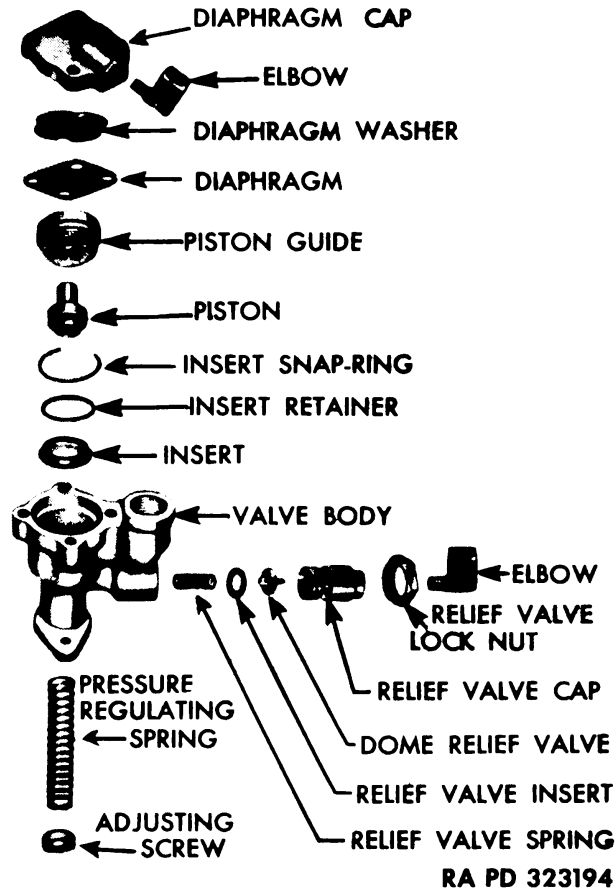
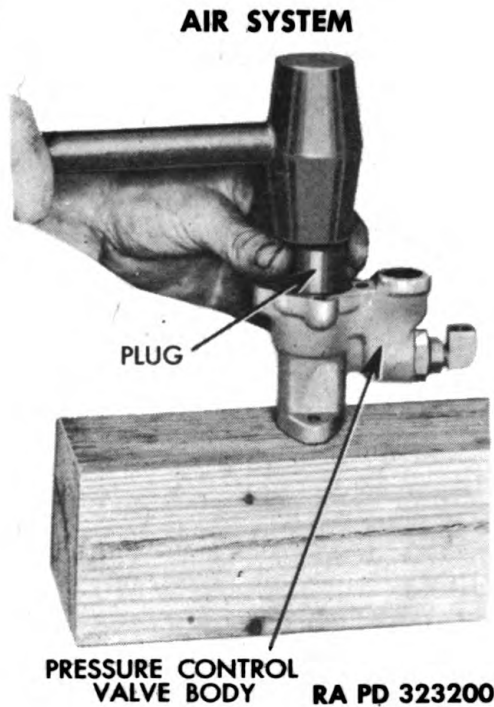

Figure 198 — Pressure Control Valve Disassembled
Figure 204 — Installing Insert in Pressure Control Valve Body
(2) **REMOVE PISTON** (fig. 198). Unscrew piston guide from valve body, using piston guide wrench (41-W-3336-740) (fig. 197), and lift out piston and compression spring.
(3) **REMOVE VALVE BODY INSERT** (fig. 198). Remove valve body insert snap ring from valve body, using screwdriver. Pry out insert retainer and insert.
(4) **REMOVE DOME RELIEF VALVE** (fig. 198). Loosen relief valve cap lock nut, and unscrew relief valve cap from body. Remove valve, insert, and compression spring.
(5) **REMOVE ADJUSTING SCREW** (fig. 198). Measure distance from adjusting screw and face of valve body. (This dimension will be used later when installing.) Turn out adjusting screw from valve body.
b. Pressure Control Valve (fig. 198).
- (1) **PISTON AND INSERT.** Inspect contacting surfaces of piston and piston insert. If they are scratched or show signs of leaking, replace with new parts.
- (2) **SPRINGS.** Replace broken springs.
- (3) **RELIEF VALVE.** Inspect relief valve, valve insert, and cap for damage; replace defective part.
- (4) **DIAPHRAGM.** Inspect diaphragm for cracks or leaks. Replace if defective.
(1) **INSTALL VALVE BODY INSERT** (fig. 198). Set valve insert in place in valve body with step-cut-side upward. Install insert retainer ring and with plug press into position (fig. 204). Place snap ring in position on top of retainer ring.
(2) **INSTALL PISTON** (fig. 198). Set piston in valve body. Screw in guide, and tighten securely with piston guide wrench (41-W-3336-740) (fig. 197).
(4) **INSTALL RELIEF VALVE** (fig. 198). Install relief valve, insert, and spring in relief valve body. Screw cap assembly into valve body finger-tight, then hold cap and tighten lock nut.
(5) **INSTALL PRESSURE REGULATING SPRING** (fig. 198). Install spring in the valve body, and secure with adjusting screw. Turn adjusting screw in until the distance from screw to the body face is equal to measurement made before adjusting screw was removed (approximately $\frac{1}{8}$ inch). **NOTE:** *There is no test to be made on pressure control valve before valve is installed on compressor.*